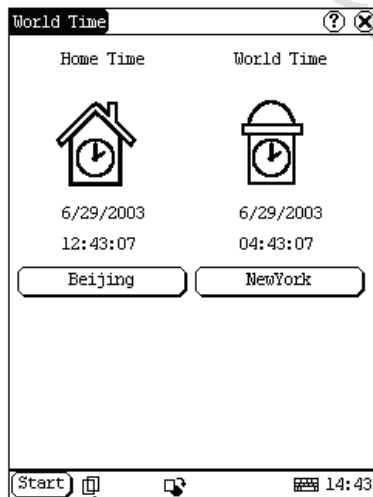

Figure 4-11
- 4) Then you can see the time directly. (See Figure 4-11).